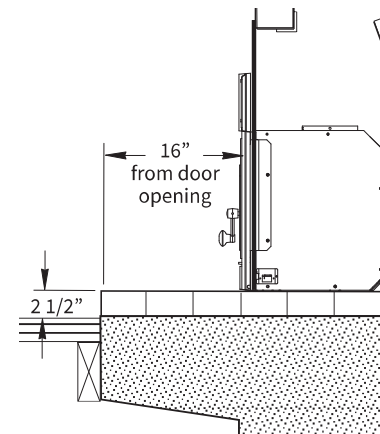

Figure 61. Minimum raised hearth requirement. Riser Bar not required.
- Raised Hearth: Where the hearth construction is a minimum of 2 1/2" thick, the insert may be installed without use of the Riser Bar. See fig. 61.
- Clearance (open space) must be maintained between the fireplace insert and combustible materials located above and to the side. See figure 61 for minimum dimensions.
Clearances are measured from the hearth surface, glass, or centerline as noted in Fig. 61.